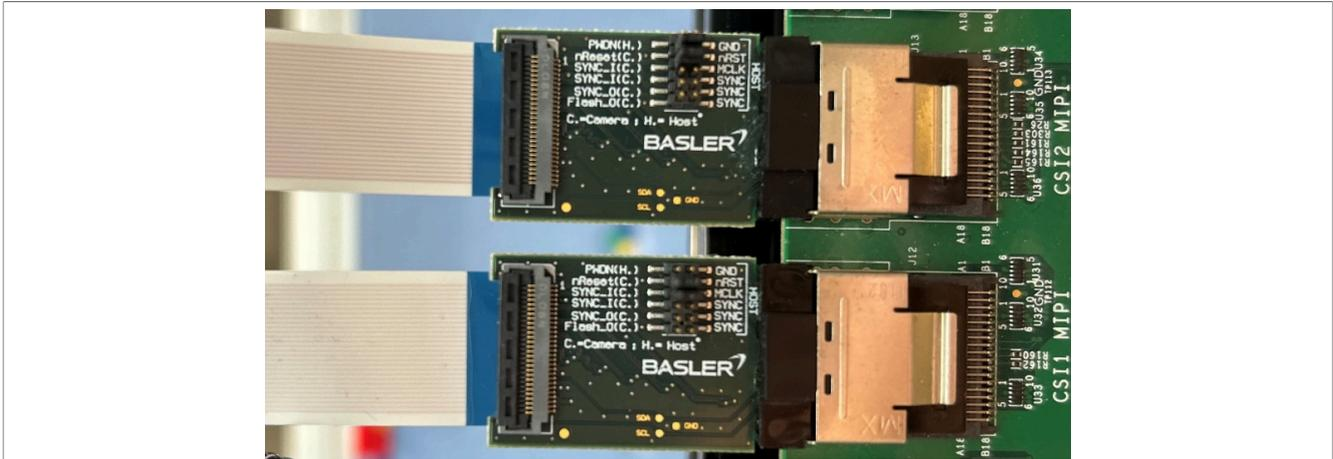

Figure 2. BCON for MIPI to mini-SAS adapter
Figure 2 shows the two BCON to MIPI adapters along with pin 5 and pin 6, which are connected to a jumper. A connection is established between the SYNC_I(C) signal and the MCLK signal on the adapter.